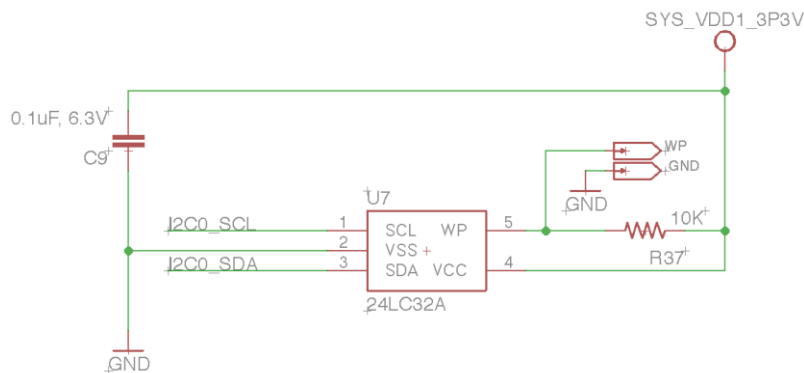

Figure 102 EEPROM Circuitry
The EEPROM circuit can be built as shown in Figure 102. By default, the Write Protect (WP) pin is pulled high through a 10K Ohm resistor. This means that the EEPROM is write protected and no data can be written to the EEPROM. In order to program the EEPROM, we need to provide test points such that it is easy to connect the Write Protect (WP) pin to a GND pin.